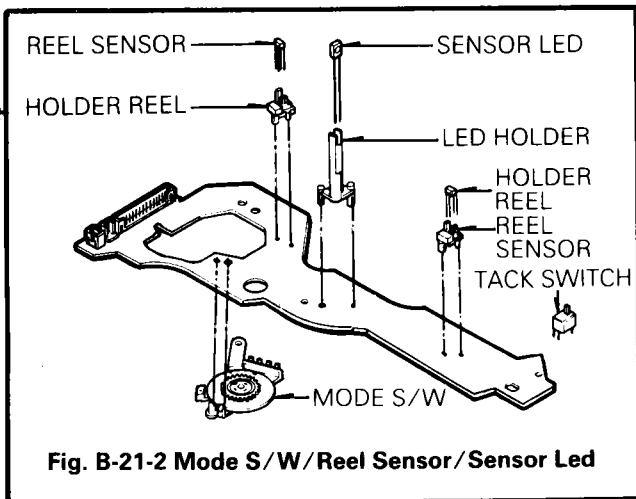

Fig. B-21-2 Mode S/W/Reel Sensor/Sensor Led
- 2) Remove two screws(A),(B) and then remove the Junction P.C.B Assembly.
- 4) Remove the Reel Sensors, Sensor LEDs and each holder from the Junction P.C.B(Fig. B-21-2).